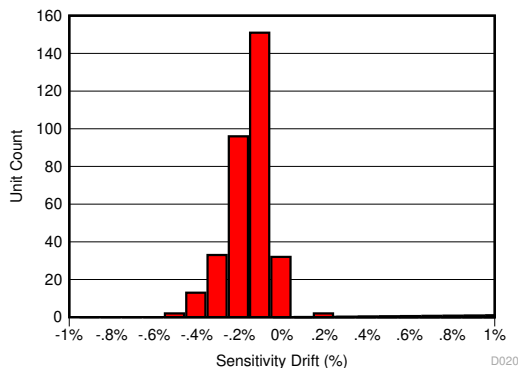
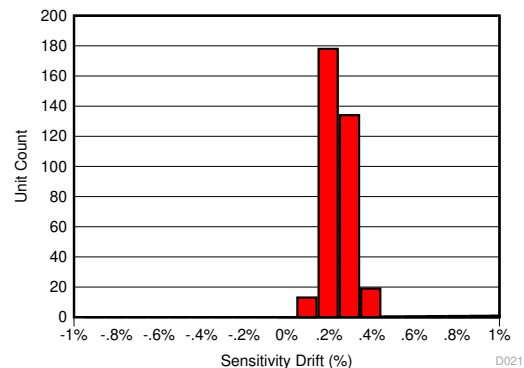
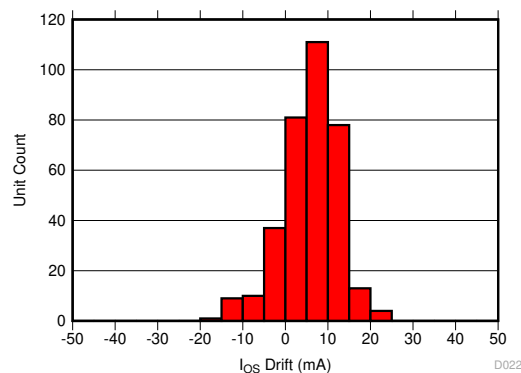

Figure 9-1. Sensitivity Error After 130°C, 85% RH HAST
Figure 9-2. Sensitivity Error Drift After AEC-Q100 High Temperature Operating Life Stress Test
Figure 9-3. Input-Referred Offset Drift After AEC-Q100 High Temperature Operating Life Stress Test
3% of sensitivity drift due to aging at high operating temperatures. The TMCS1108 has greatly improved lifetime drift, as defined in the Electrical Characteristics table for total sensitivity error measured after the worst-case stress test during a three lot AEC-Q100 qualification. All other stress tests prescribed by an AEC-Q100 qualification caused lower than the specified sensitivity error, and were within the bounds specified within the Electrical Characteristics table. Figure 9-1 shows the total sensitivity error after the worst case stress test, a Highly Accelerated Stress Test (HAST) at 130°C and 85% relative humidity (RH), while Figure 9-2 and Figure 9-3 show the sensitivity and offset error drift after a 1000 hour, 125°C high temperature operating life stress test as specified by AEC-Q100. This test mimics typical device lifetime operation, and shows the likely device performance variation due to aging is vastly improved compared to typical magnetic sensors.